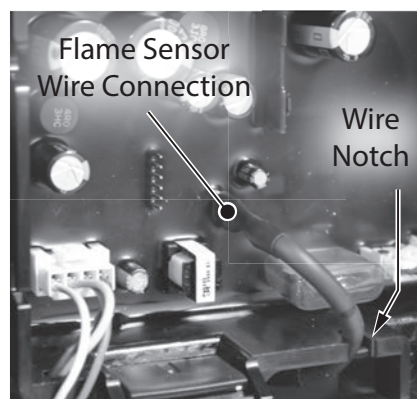

Figure 39 - Disconnect flame sensor wire
4 Disconnect the flame sensor wire (blade style connector) from control board panel as shown in Figure 39. Notice the wire notch in the control board panel for proper routing of the flame sensor wire during reinstallation.
- 10** Route the flame sensor wire under the control board panel and through the notch as shown in Figure 39. This will help keep wire in place.
- 12** Connect the flame sensor wire to control board panel as shown in Figure 39.